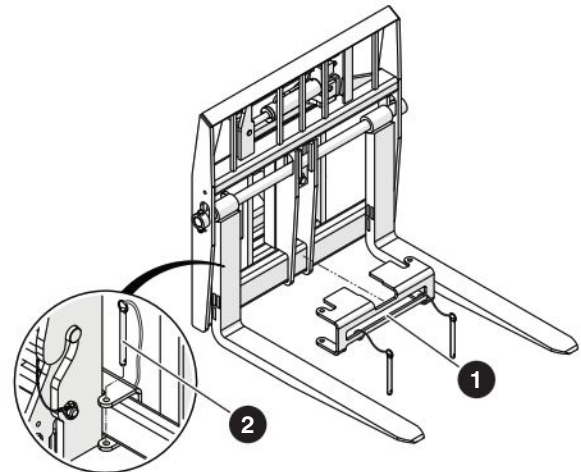

Figure 44 Side Tilt Carriage Locking Device
2. Tilt the carriage until it is horizontally aligned with the machine frame so the side tilt carriage locking device ① can be properly installed.
4. Install the side tilt carriage locking device in place, as shown in figure 44. Secure it with the quick release pins ② on both sides of the carriage.